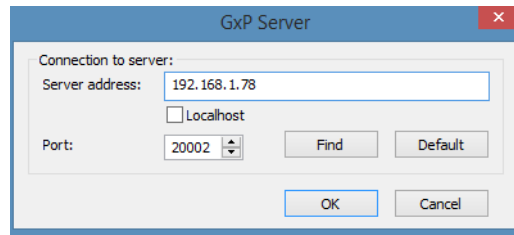

Figure 4-5: Manual Entry of Remote Host Address
- **Choosing a remote host on another subnet**—If the ForteBio FB Server module is hosted on a different subnet, deselect the **Localhost** check box. Enter the IP address of the computer hosting the ForteBio FB Server module (Figure 4-5).